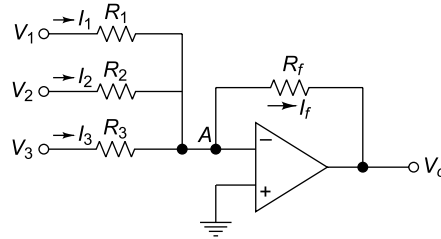

Fig. 5.10 Circuit of Ex. 5.5
5.5 Figure 5.10 shows an adder circuit with $V_1 = 1$ V, $V_2 = 2$ V and $V_3 = -2$ V. Determine the output voltage V_o . Assume $R_1 = 2$ k Ω , $R_2 = 1$ k Ω , $R_3 = 2$ k Ω and $R_f = 4.7$ k Ω